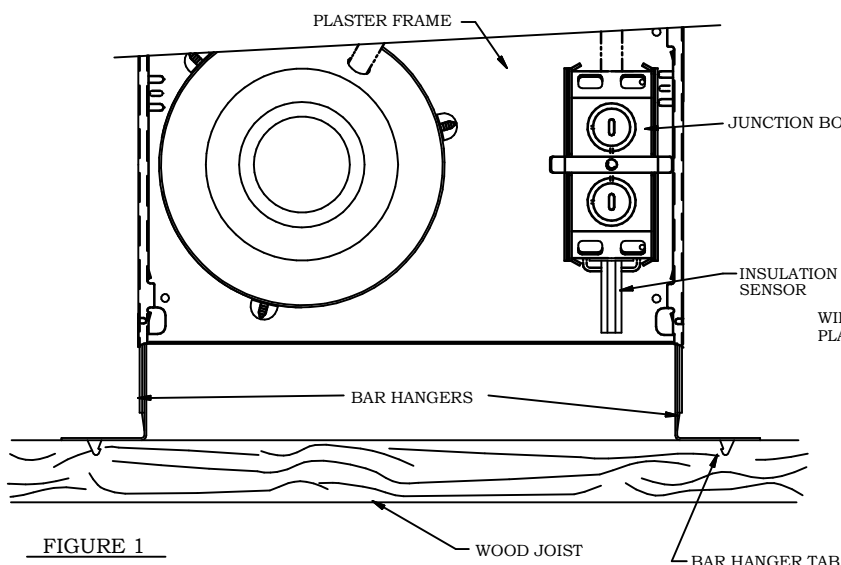

FIGURE 1
- 1.- SLIP BAR HANGERS THROUGH SLOTS IN PLASTER FRAME. HOLD FRAME IN DESIRED LOCATION BETWEEN JOISTS AND DRIVE BAR HANGER TABS INTO WOODEN JOISTS. USE NAILS THROUGH HOLES IN HANGER ENDS FOR ADDITIONAL SUPPORT IF NECESSARY. INSTALL LOCKING SCREWS INTO PLASTER FRAME AND TIGHTEN AGAINST BAR HANGERS TO PREVENT LATERAL MOVEMENT OF FRAME (SEE FIGURE 1).